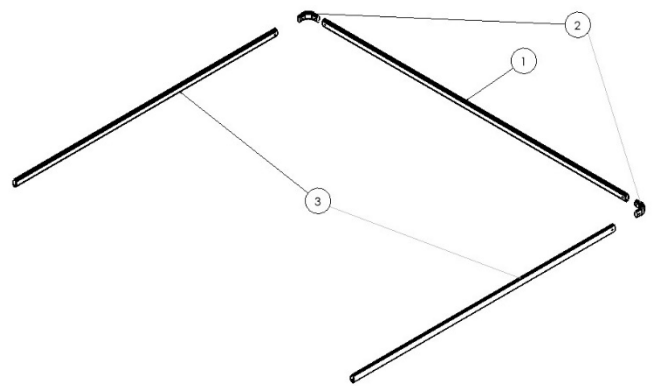

Figure 3.8
Lay the cross tube (1) on the ground behind the truck. Slide the 90 degree elbows (2) into the cross tube so that they are pointing toward the truck. Slide the upper arms (3) over each of the 90 degree corners. Verify that the cross tube is the right size by checking to see that the upper arms can be slid into the lower arms. If the cross tube is too long cut it to size. (Figure 3.8)